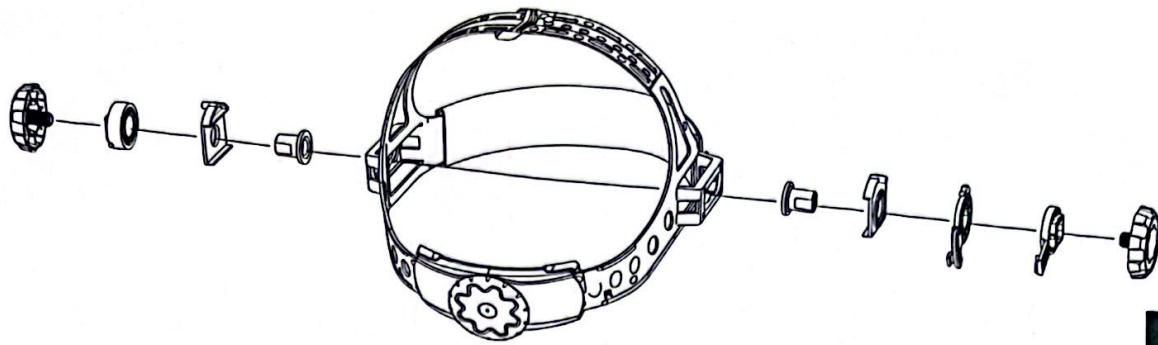
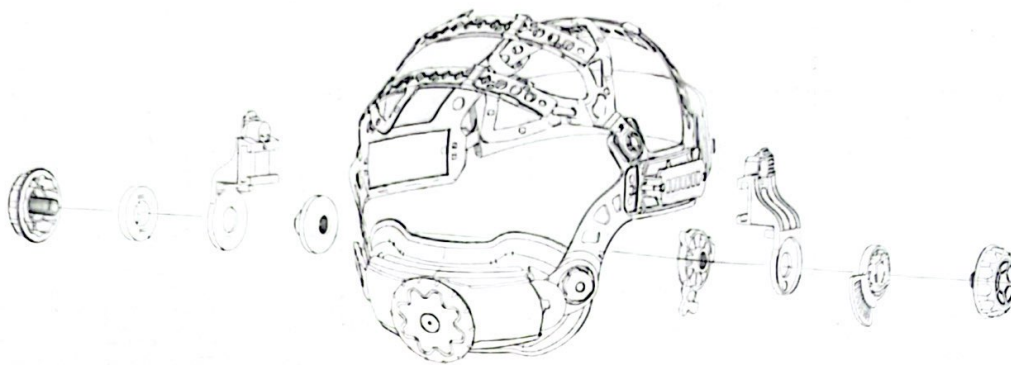

Fig.1
Fig.2
1. Insert the headgear into helmet shell, as the installation order is in Fig.1 (headgear for 5 series) and Fig.2 (headgear for 7 series and above).